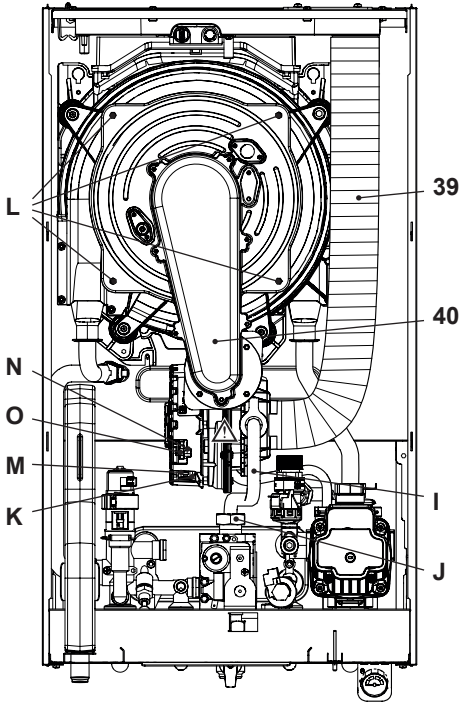

Figure 9.6
Removing the burner fan unit 40 in Figure 9.6.
- Disconnect the air suction pipe 39 (Figure 9.6).
- Insert a flat screwdriver in the recess K of the connector M and pry it downwards; at the same time disconnect the connector M by pulling it towards the front (Figure 9.6).
- connector (Figure 9.6).
- Loosen the nuts L and remove the fan burner unit 40 (Figure 9.6).